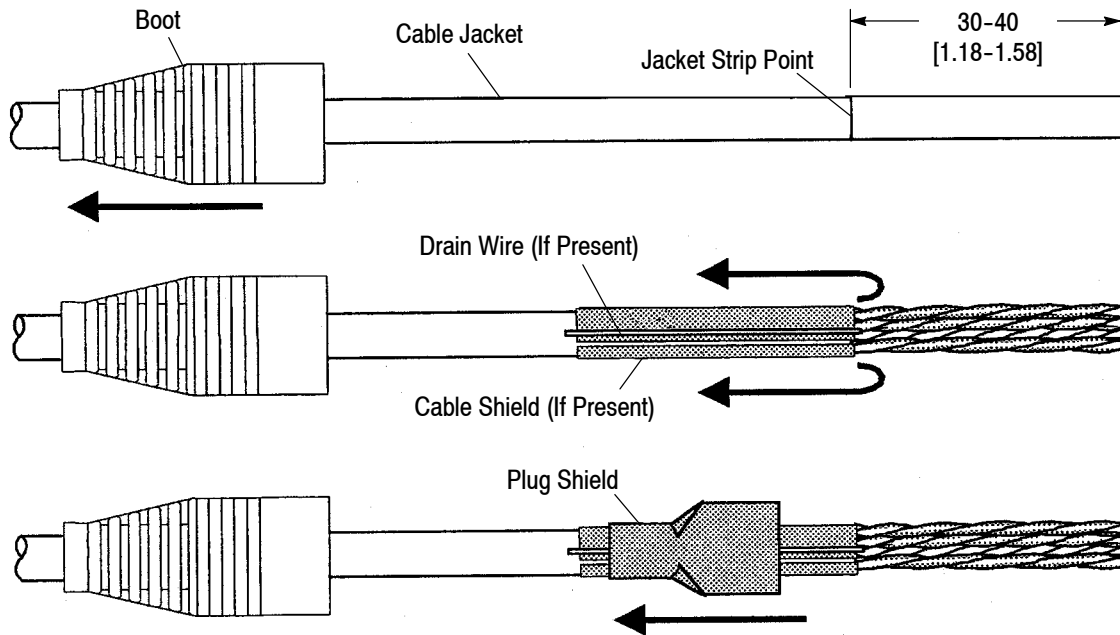

Figure 3
B. Cable Preparation (Figure 3)